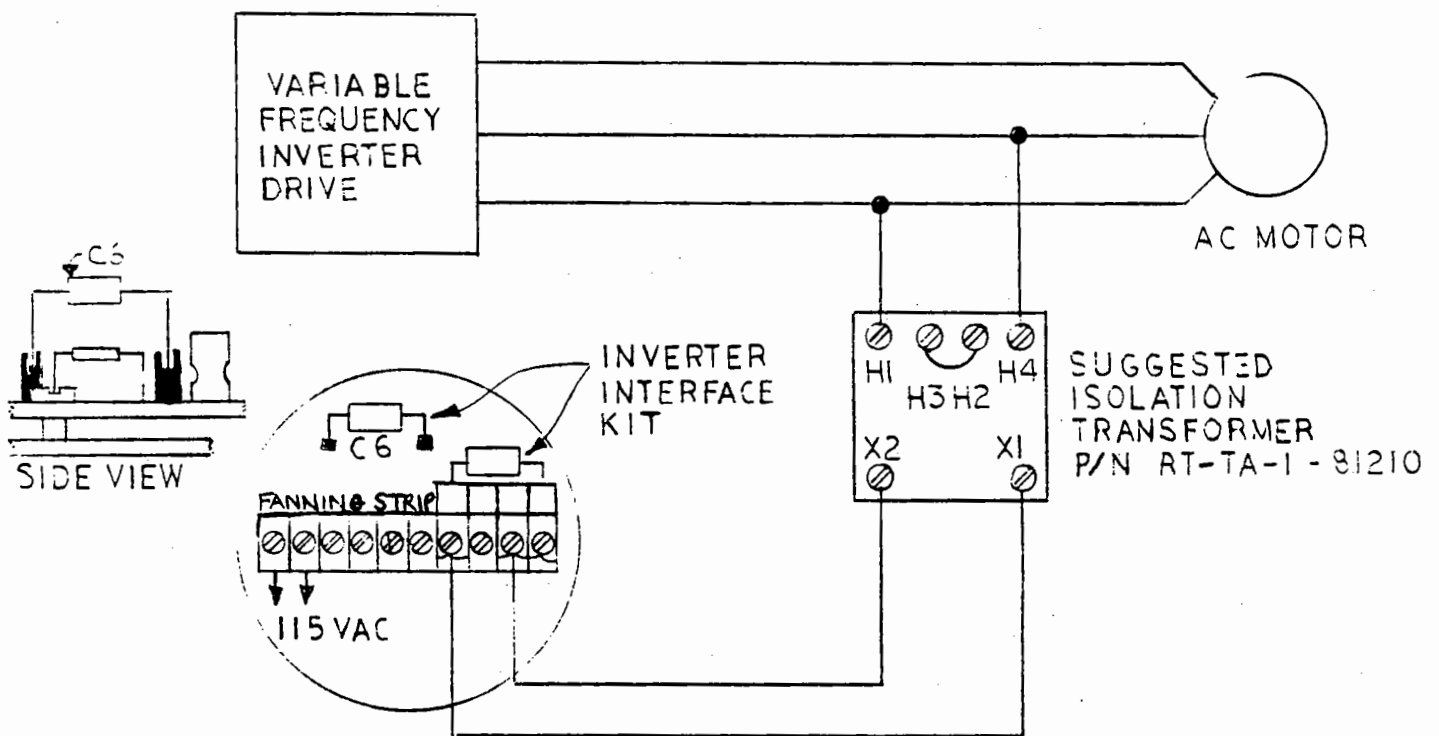

FIGURE 2
3.) Inverter Output (See Fig. 2)